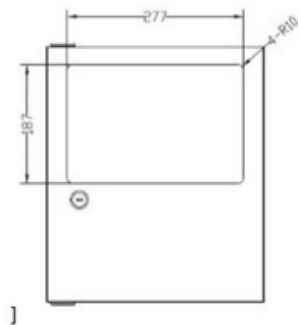

Figure 1
- Open a hole on the cabinet panel as the below Figure 1 shows.